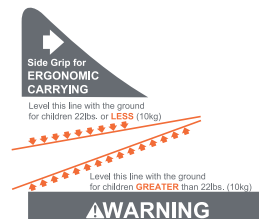

Fig. 52-1
2. **Safety Seat without Base:** Check that the Safety Seat is level side to side on the vehicle seat. Check the Seat Angle Indicator that matches the weight of your child (Fig. 52-1).